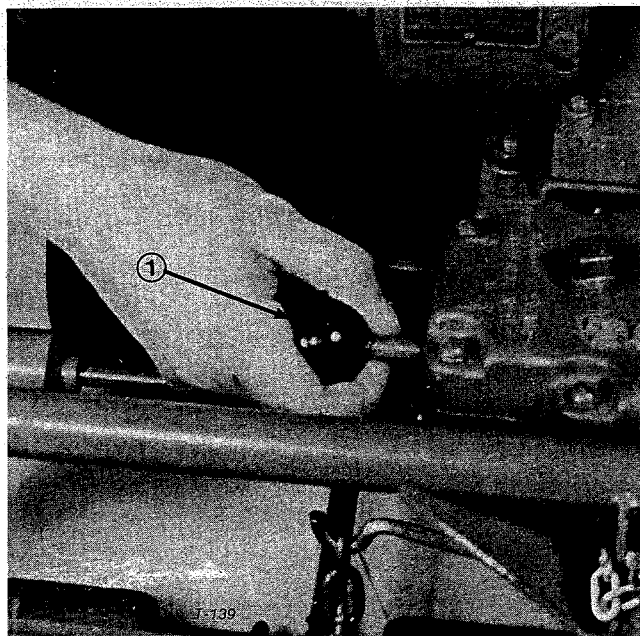

Figure 20
3. Pull traction clutch control lever back to DISENGAGE position and pull reel drive control knob on transmission fully out to ENGAGE reel (Fig. 20).